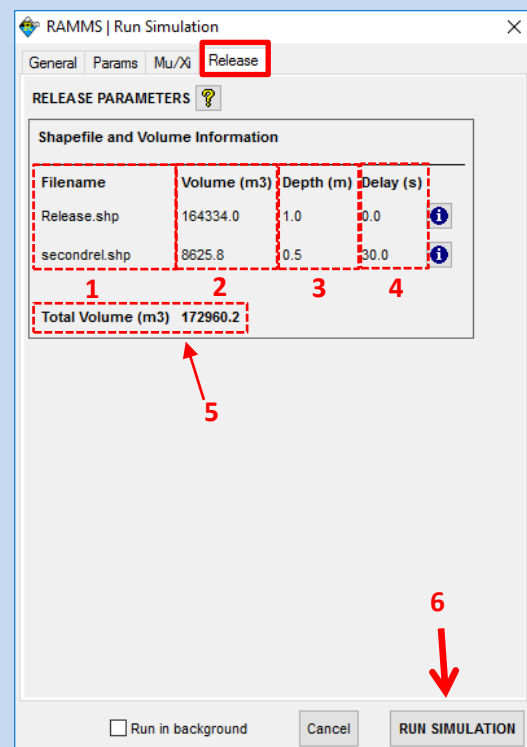

Figure 3.48: Release information.
- Click run simulation (Figure 3.48)